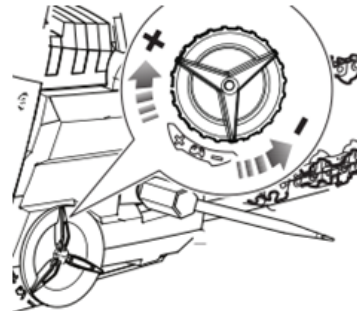

Fig. 12
- Remove all slack from the chain by turning the chain tensioner clockwise until the chain seats snugly against the bar with the drive links in the bar groove. (Fig. 12)